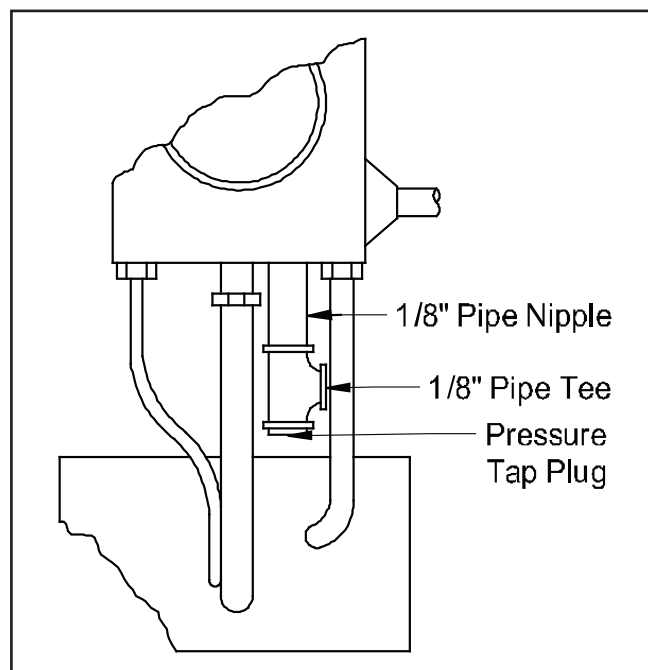

Figure 4
2. Replace the pressure tap plug with the $\frac{1}{8}$ " pipe nipple and pipe tee. Install pressure tap plug at the bottom of the pipe tee. (See Figure 4)